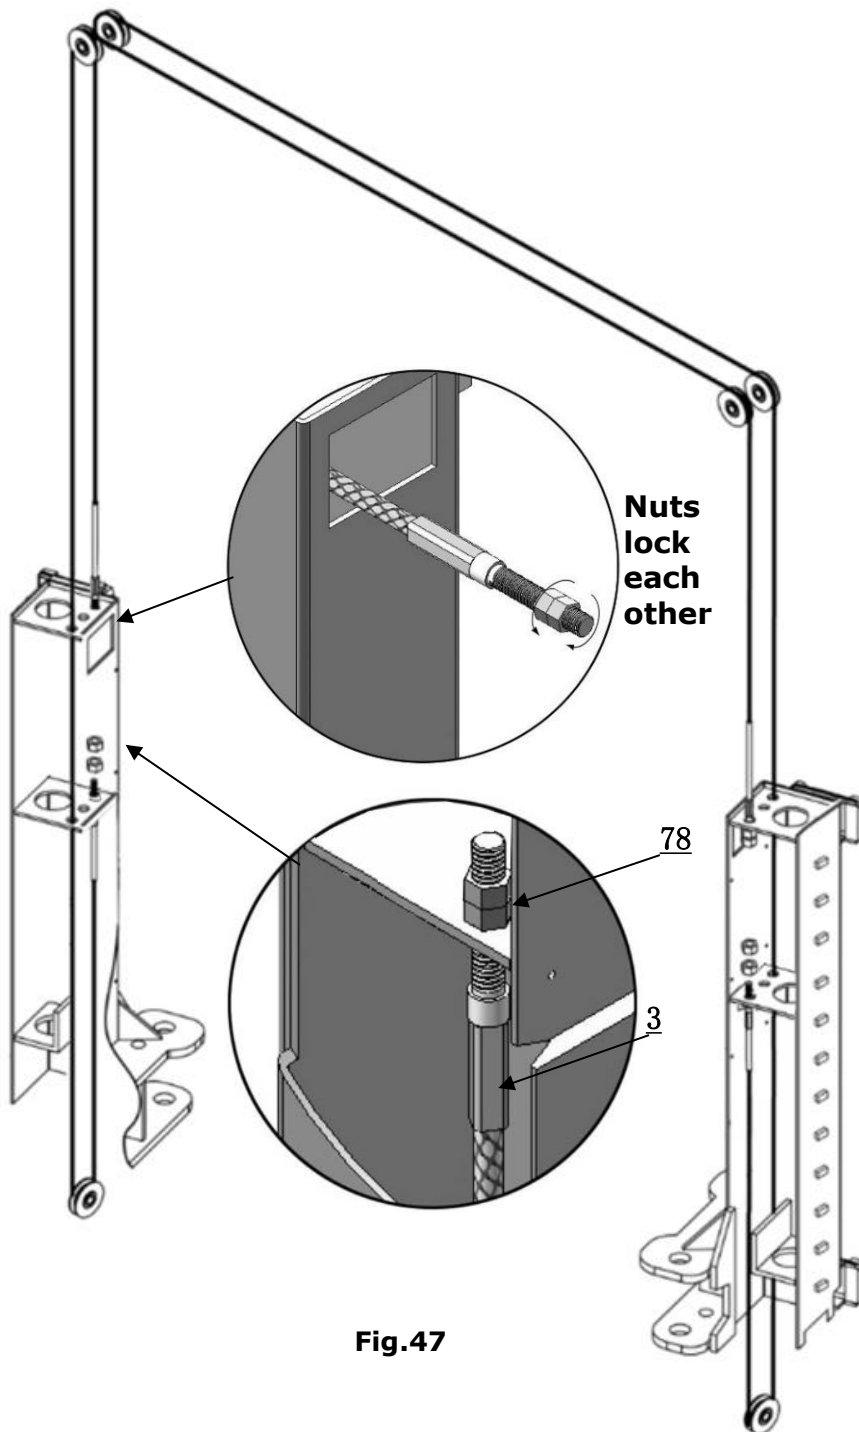

Fig.47
2. 2. OHX-10H: Cable connection for high setting (Fig. 47).